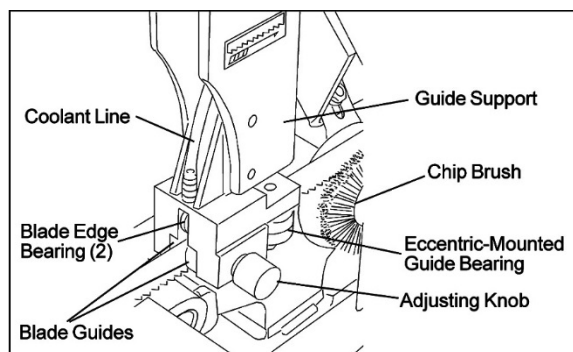

Figure 18: Carbide blade guides and guide bearings.
Refer to Figure 18.
1. Remove cap screw from bearing being replaced. See Figure 18. Separate bushing and cap screw from the bearing. Discard bearing.